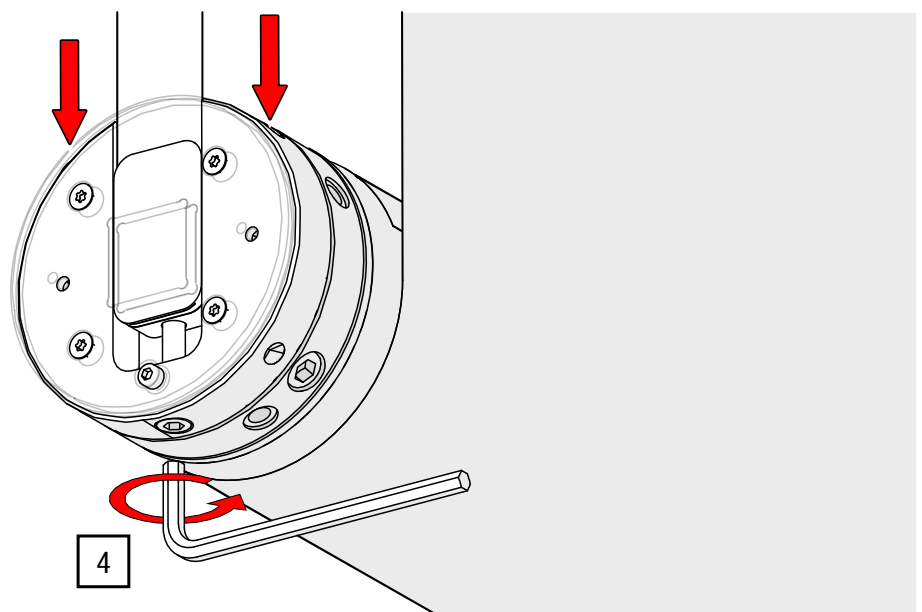

Fig. 36: Setting the levelling – Adjusting the winding shaft downwards
4. Turn the levelling screw anticlockwise using an Allen key AF 8 (see Fig. 36).